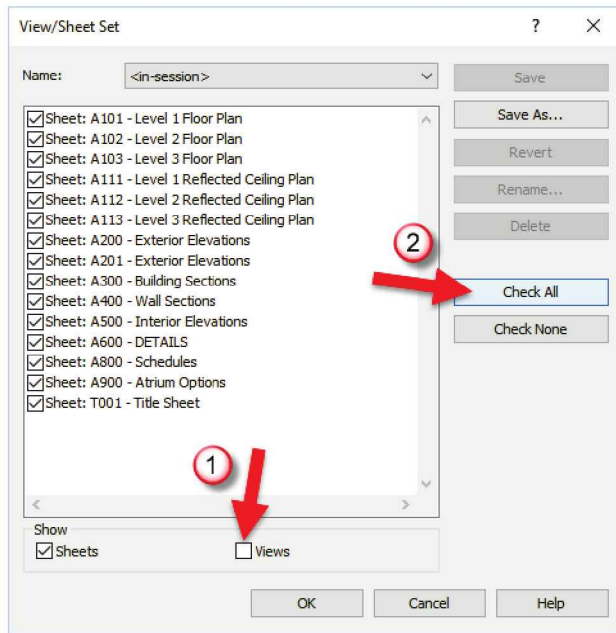

FIGURE 14-3.2 Selecting tool for printing
You should now see a listing of all views and sheets (Figure 14-3.2).
*FYI:* Once you have selected the sheets to be plotted you can click *Save*. This will save the list of selected drawings to a name you choose. Then, the next time you need to print those sheets, you can select the name from the drop-down list at the top (Figure 14-3.2). On very large projects (e.g., with 20 floor plan sheets) you could have a “Plans” list saved, a “Laboratory Interior Elevations” list saved, etc.